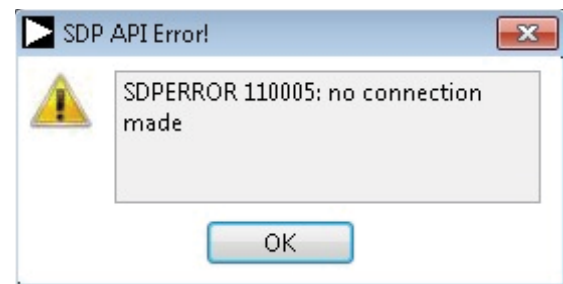

Figure 16. SDP-H1 Board Not Connected to USB Port Error
- If **Cancel** is clicked, a message appears, as shown in Figure 16.